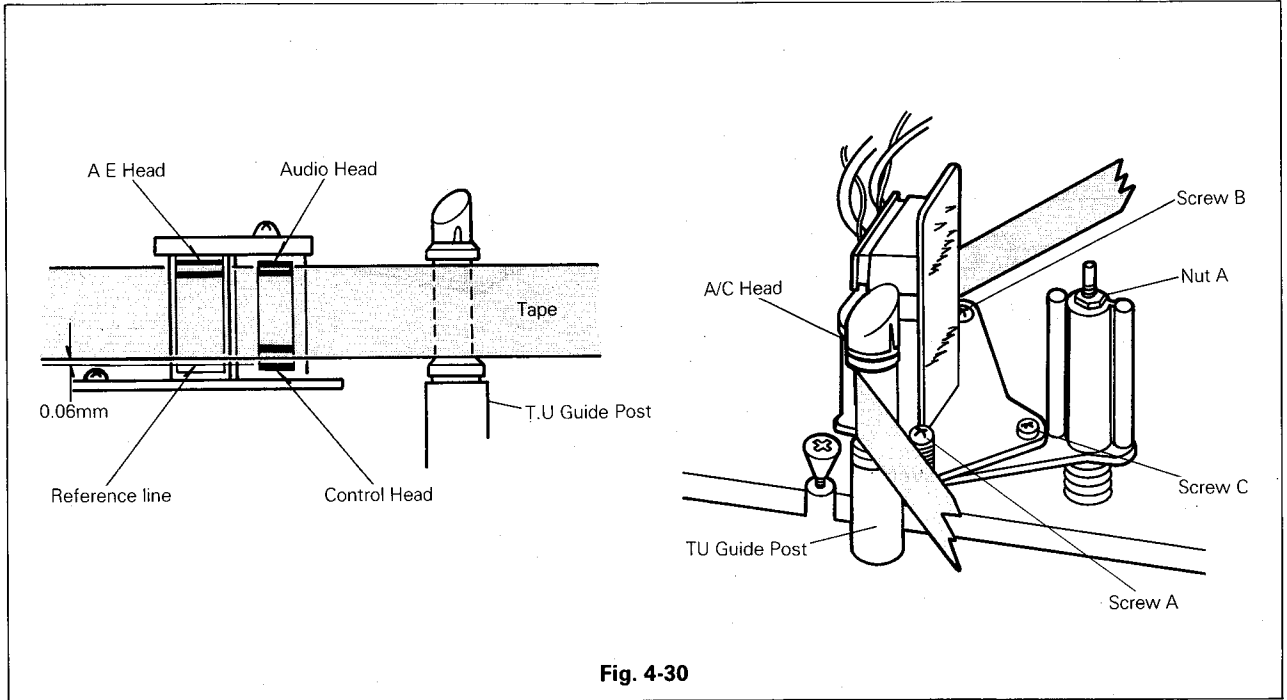

Fig. 4-30
- B. Rotate the nut "A" and adjust to obtain maximum audio output level and the dimensions shown in Fig. 4-30.
- C. Adjust the inclination adjusting screw (C) so that the tape will run along the lower edge of the take-up guide post without creasing as illustrated in Fig. 4-30.